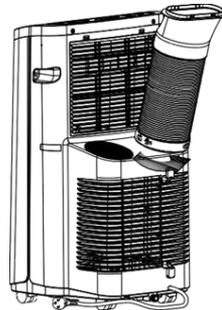

Fig. 7
- Connect the end of the exhaust pipe with the joiner disc to the exhaust output on the back of the unit, turning counter-clockwise (as shown in Fig. 7).